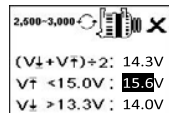

Fig.46
7. If either minimum or maximum charging volts are not within the voltage range limits then it will display one of the screens as below (Fig.46&47) and it will highlighted which prompt the user to check the charging system for the fault.